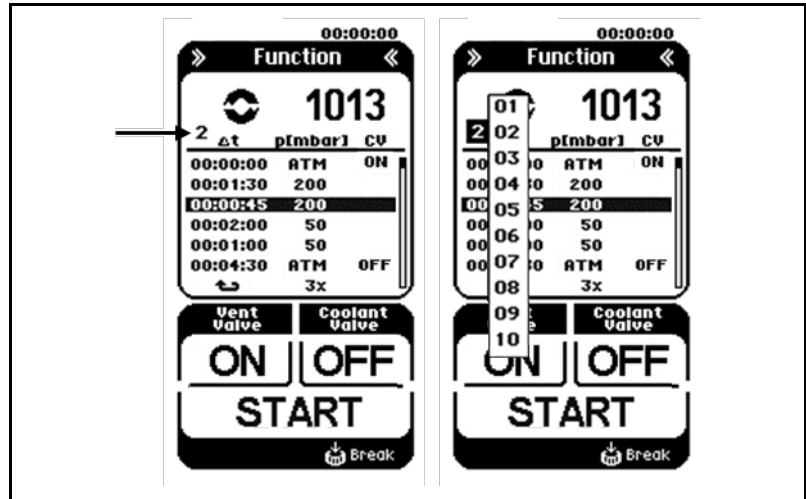

Fig. 8: Menu in Function operating mode
Line selection (see Fig. 8):
- Press the button to select data point tables (arrow in Fig. 8) and select the required data point table.
i Up to 10 different data point tables can be stored and called as required. The number in the display (arrow in Fig. 8) indicates the data point table that is currently selected.